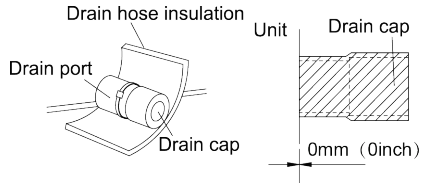

Fig. 4.27
- (2). The unused drain port also should be insulated properly (Fig. 4.27).